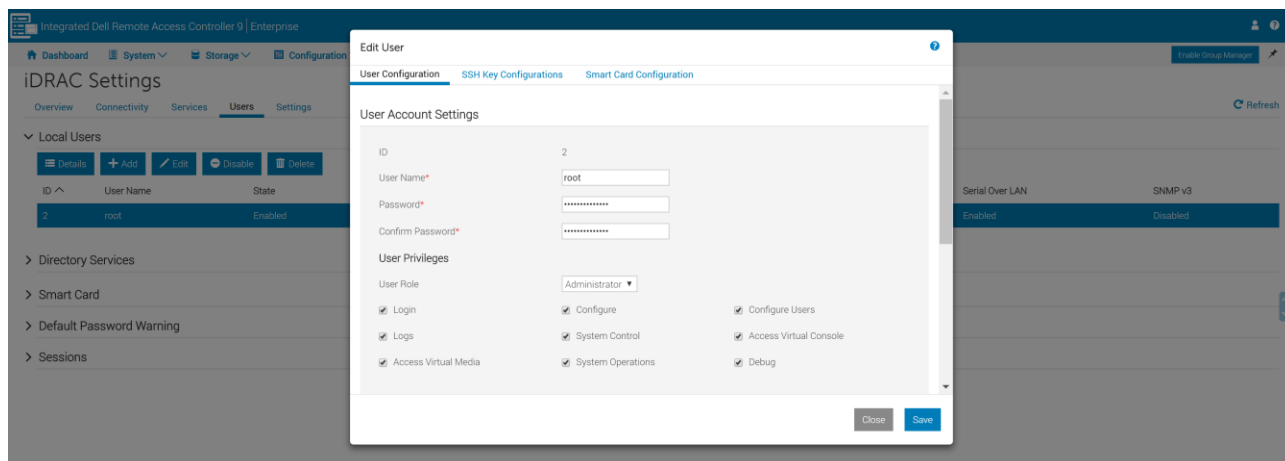

Figure 14 Web-page screen-shot showing the details to manage the user account passwords
If the administrator default user account credentials were either left unmodified or were changed, it is possible to manage the details by navigating to the **iDRAC Settings** page. On the **Users** tab, there will be listing of the user accounts. See figure 14. Note that the username for the administrator default user account can also be changed. As a reminder, the default username for the factory default user account is 'root'. If this username is changed, make a note that ID for the factory default user account is two (2). Therefore, in future, if details for the administrator user account need to be altered, you must select ID 2.